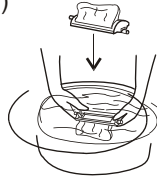

Figure 2
Put it in water and clean while it is still wet.(See to Figure 2)
2. Put down the drain hose. Take off the drain hose frame as indicated in Figure 1. Take the drain hose into the cabinet, then nip the drain fixing clamp to make it deviated from the clip, the other hand is used to put down the drain bushing, as indicated in Figure 2,3.